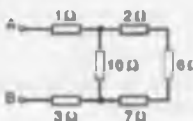

Figure 13.91
- 7 The equivalent resistance across terminals AB of Fig. 13.91 is: